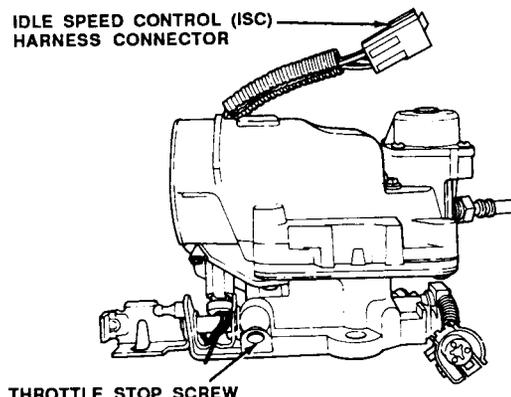

Figure F050-3
3. Remove the plug that covers the throttle stop screw (Figure F050-3).
6. Adjust the throttle stop screw (Figure F050-3) to the rpm specified in step 1.
9. Reconnect the battery and the ISC motor. Position a tachometer so it can be read from the driver seat. Start the engine and let it idle for 2 minutes in park (AT) or neutral (MT).